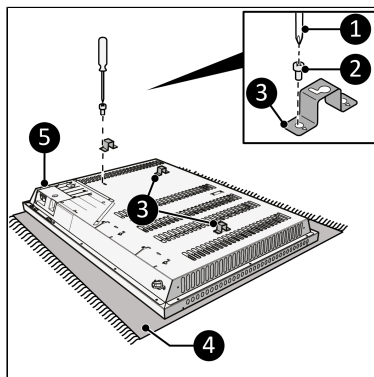

Figure 26.
8. Lay the device down on a soft steady surface (Figure 26, pos. 4).
9. Screw and tighten three brackets (Figure 26, pos. 1) on both sides of the main body (Figure 26, pos. 5) with a small screw (Figure 26, pos. 2) using a Phillips screwdriver (Figure 26, pos. 3).